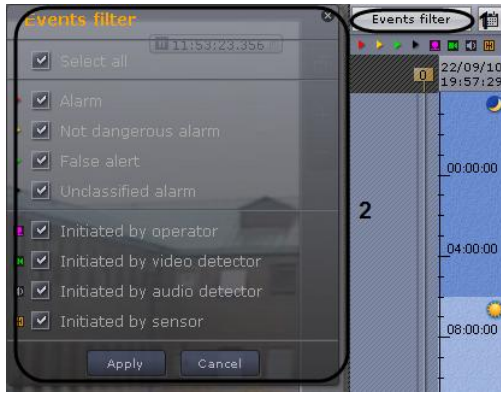

Fig. 7.1—9 The events filter
1. Click the **Events filter** button (Fig. 7.1—9, 1). The **Events filter** window will then be displayed (Fig. 7.1—9, 2).